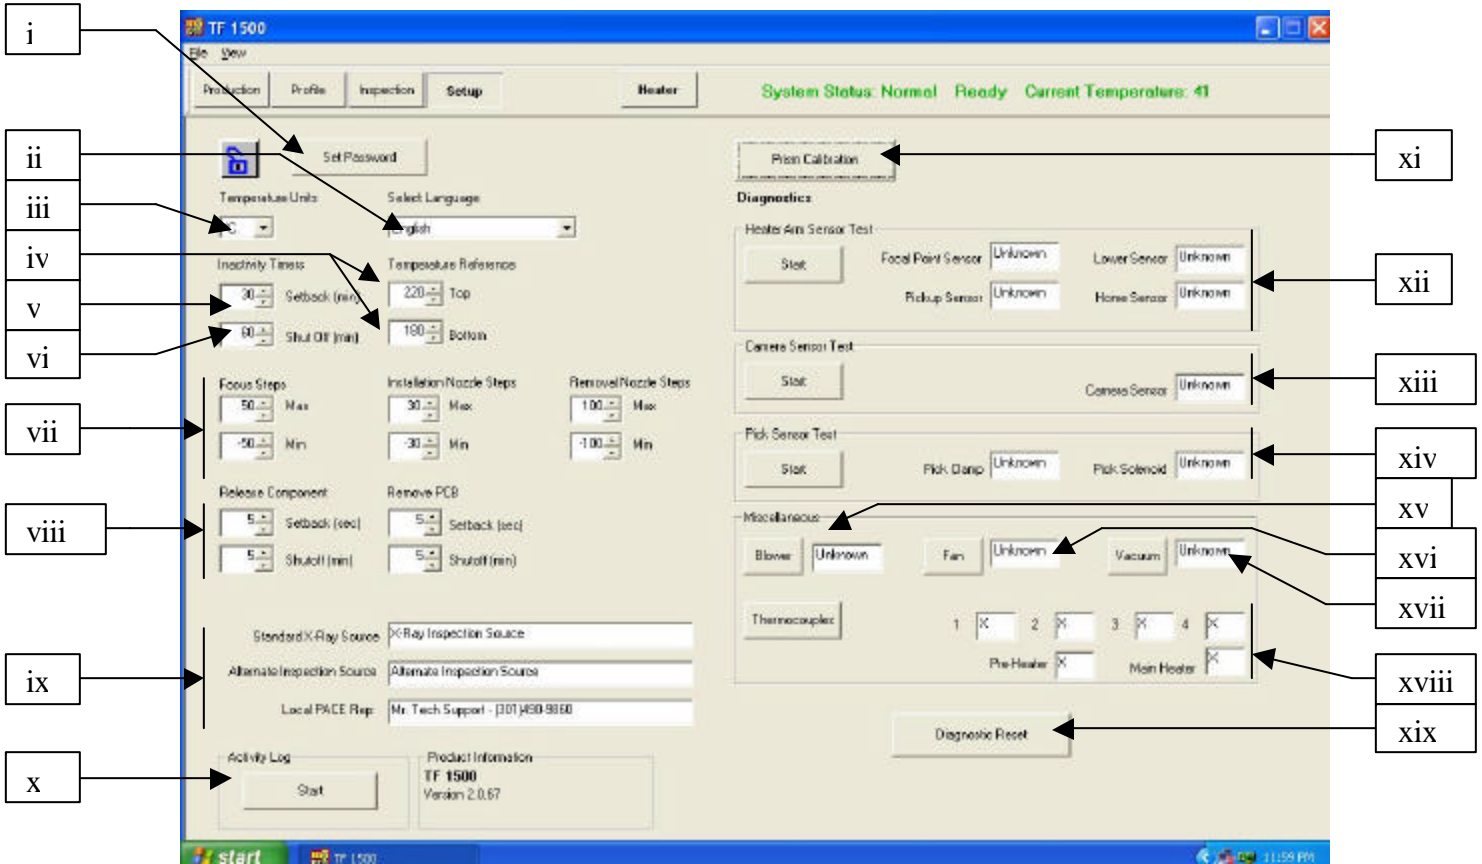

Figure 4
e. Set up screen features. (Figure 4)